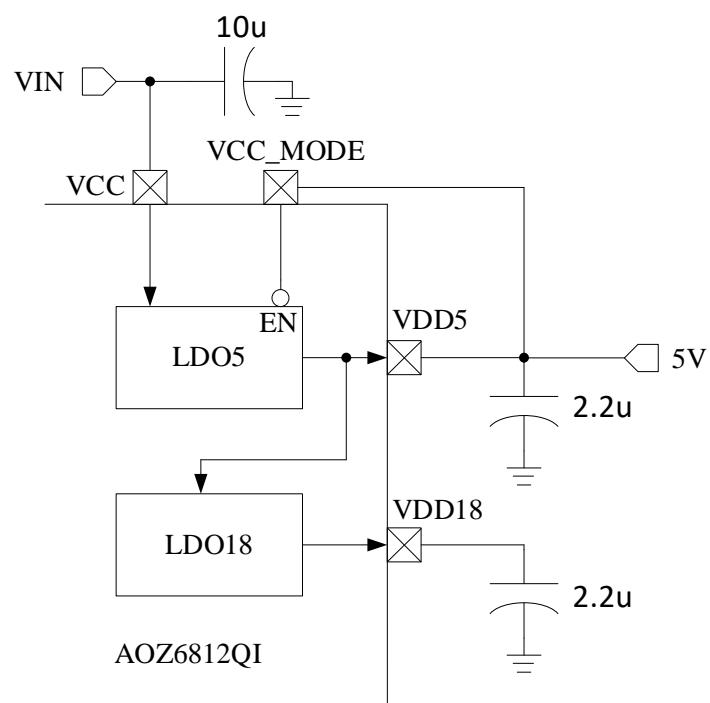

Figure 31-3 Dual-power Supply Mode
- Dual-power Supply Mode: (VCC\_MODE = 1),  $VCC \geq VDD5$ , VCC = 5 ~ 36V and VDD5 = 5V. See Figure 31-3 for details.